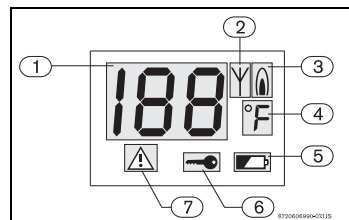

Fig. 10 Multifunctional LCD
This device has an error message system. Any errors that the heater generates will be indicated by an error code that will appear on the display (Fig. 10, pos. 1) and by a symbol indicating a "safety block" (Fig. 10, pos. 7). The remote control will be operative only after pressing the reset button on the heater and clearing the error.
When batteries are weak, the low battery symbol (Fig. 10, pos. 5) will appear on the display.
- ▶ With no hot water running, press and hold the " " or " " buttons for 5 seconds on the locked out device (remote or water heater) until the " " symbol (Fig. 10, Pos. 6) disappears.